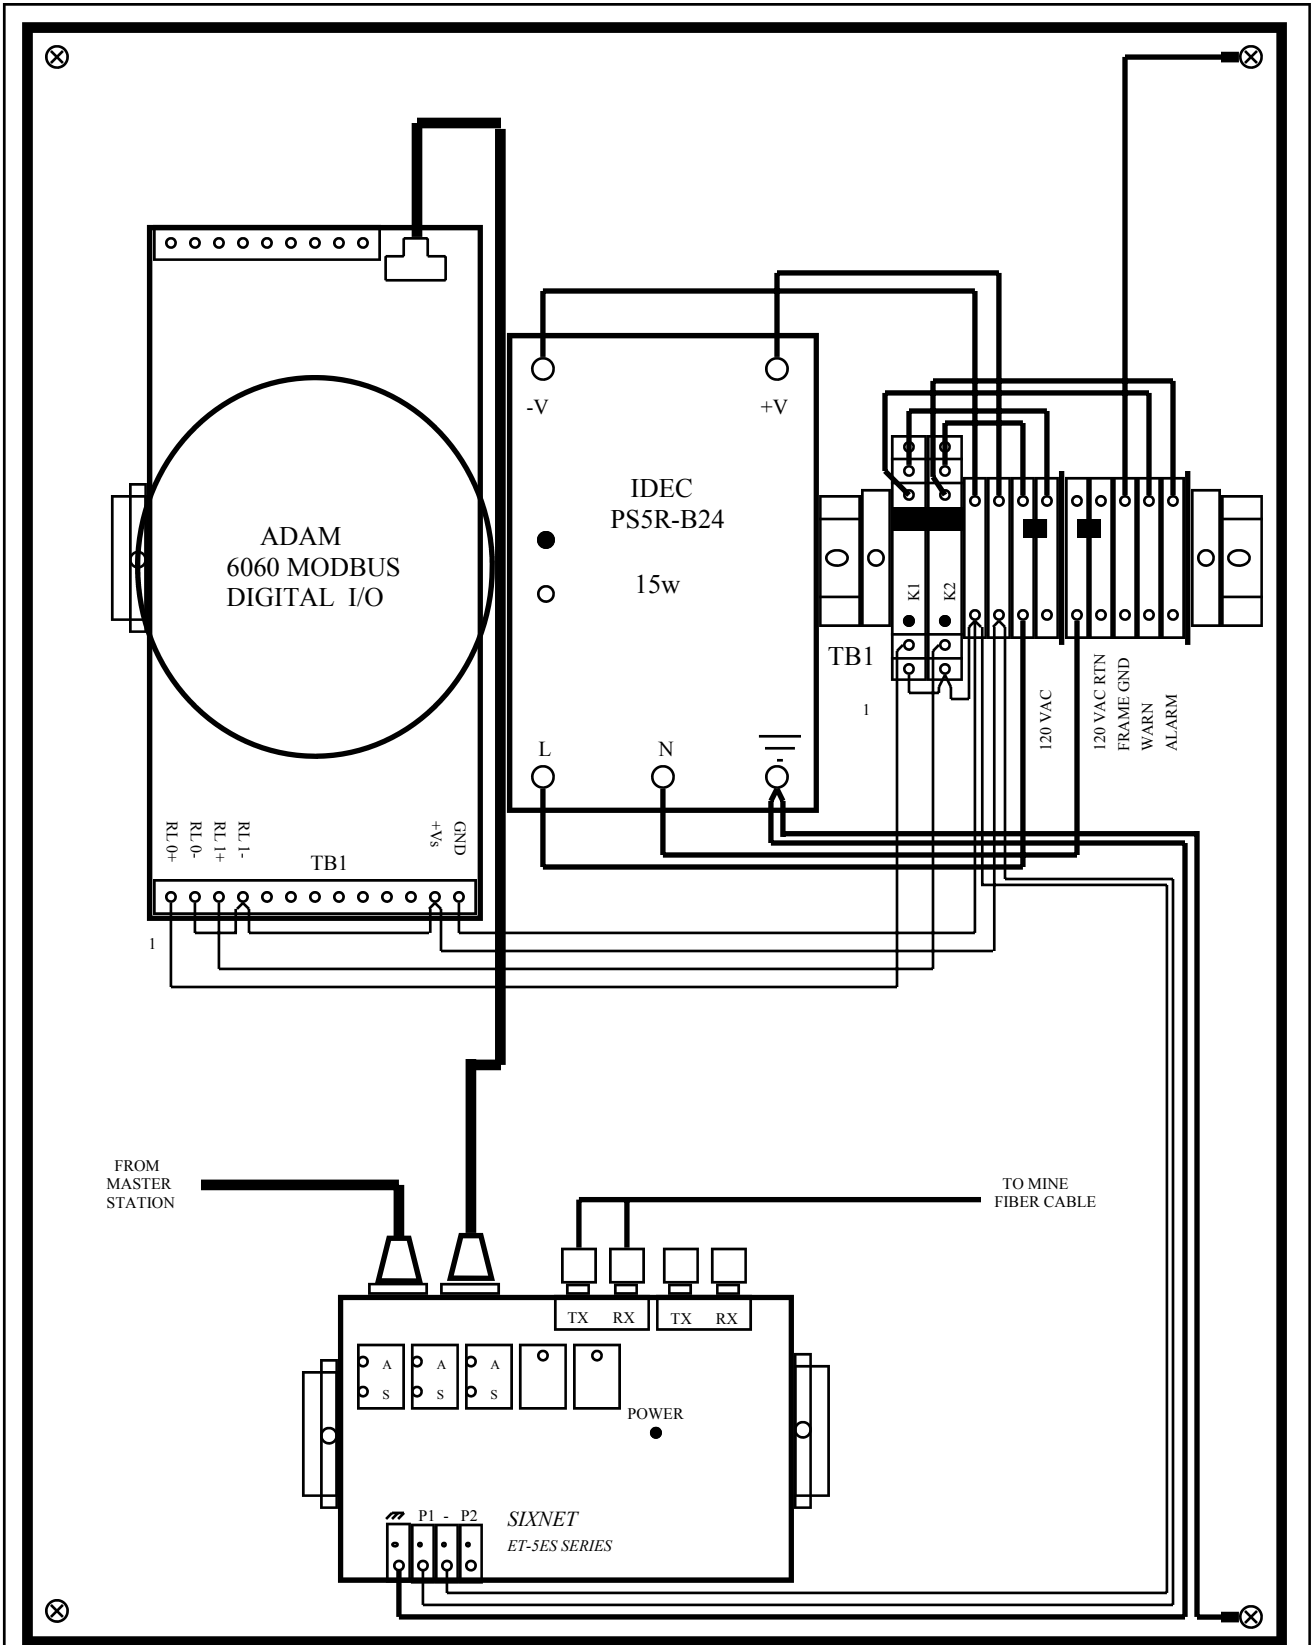
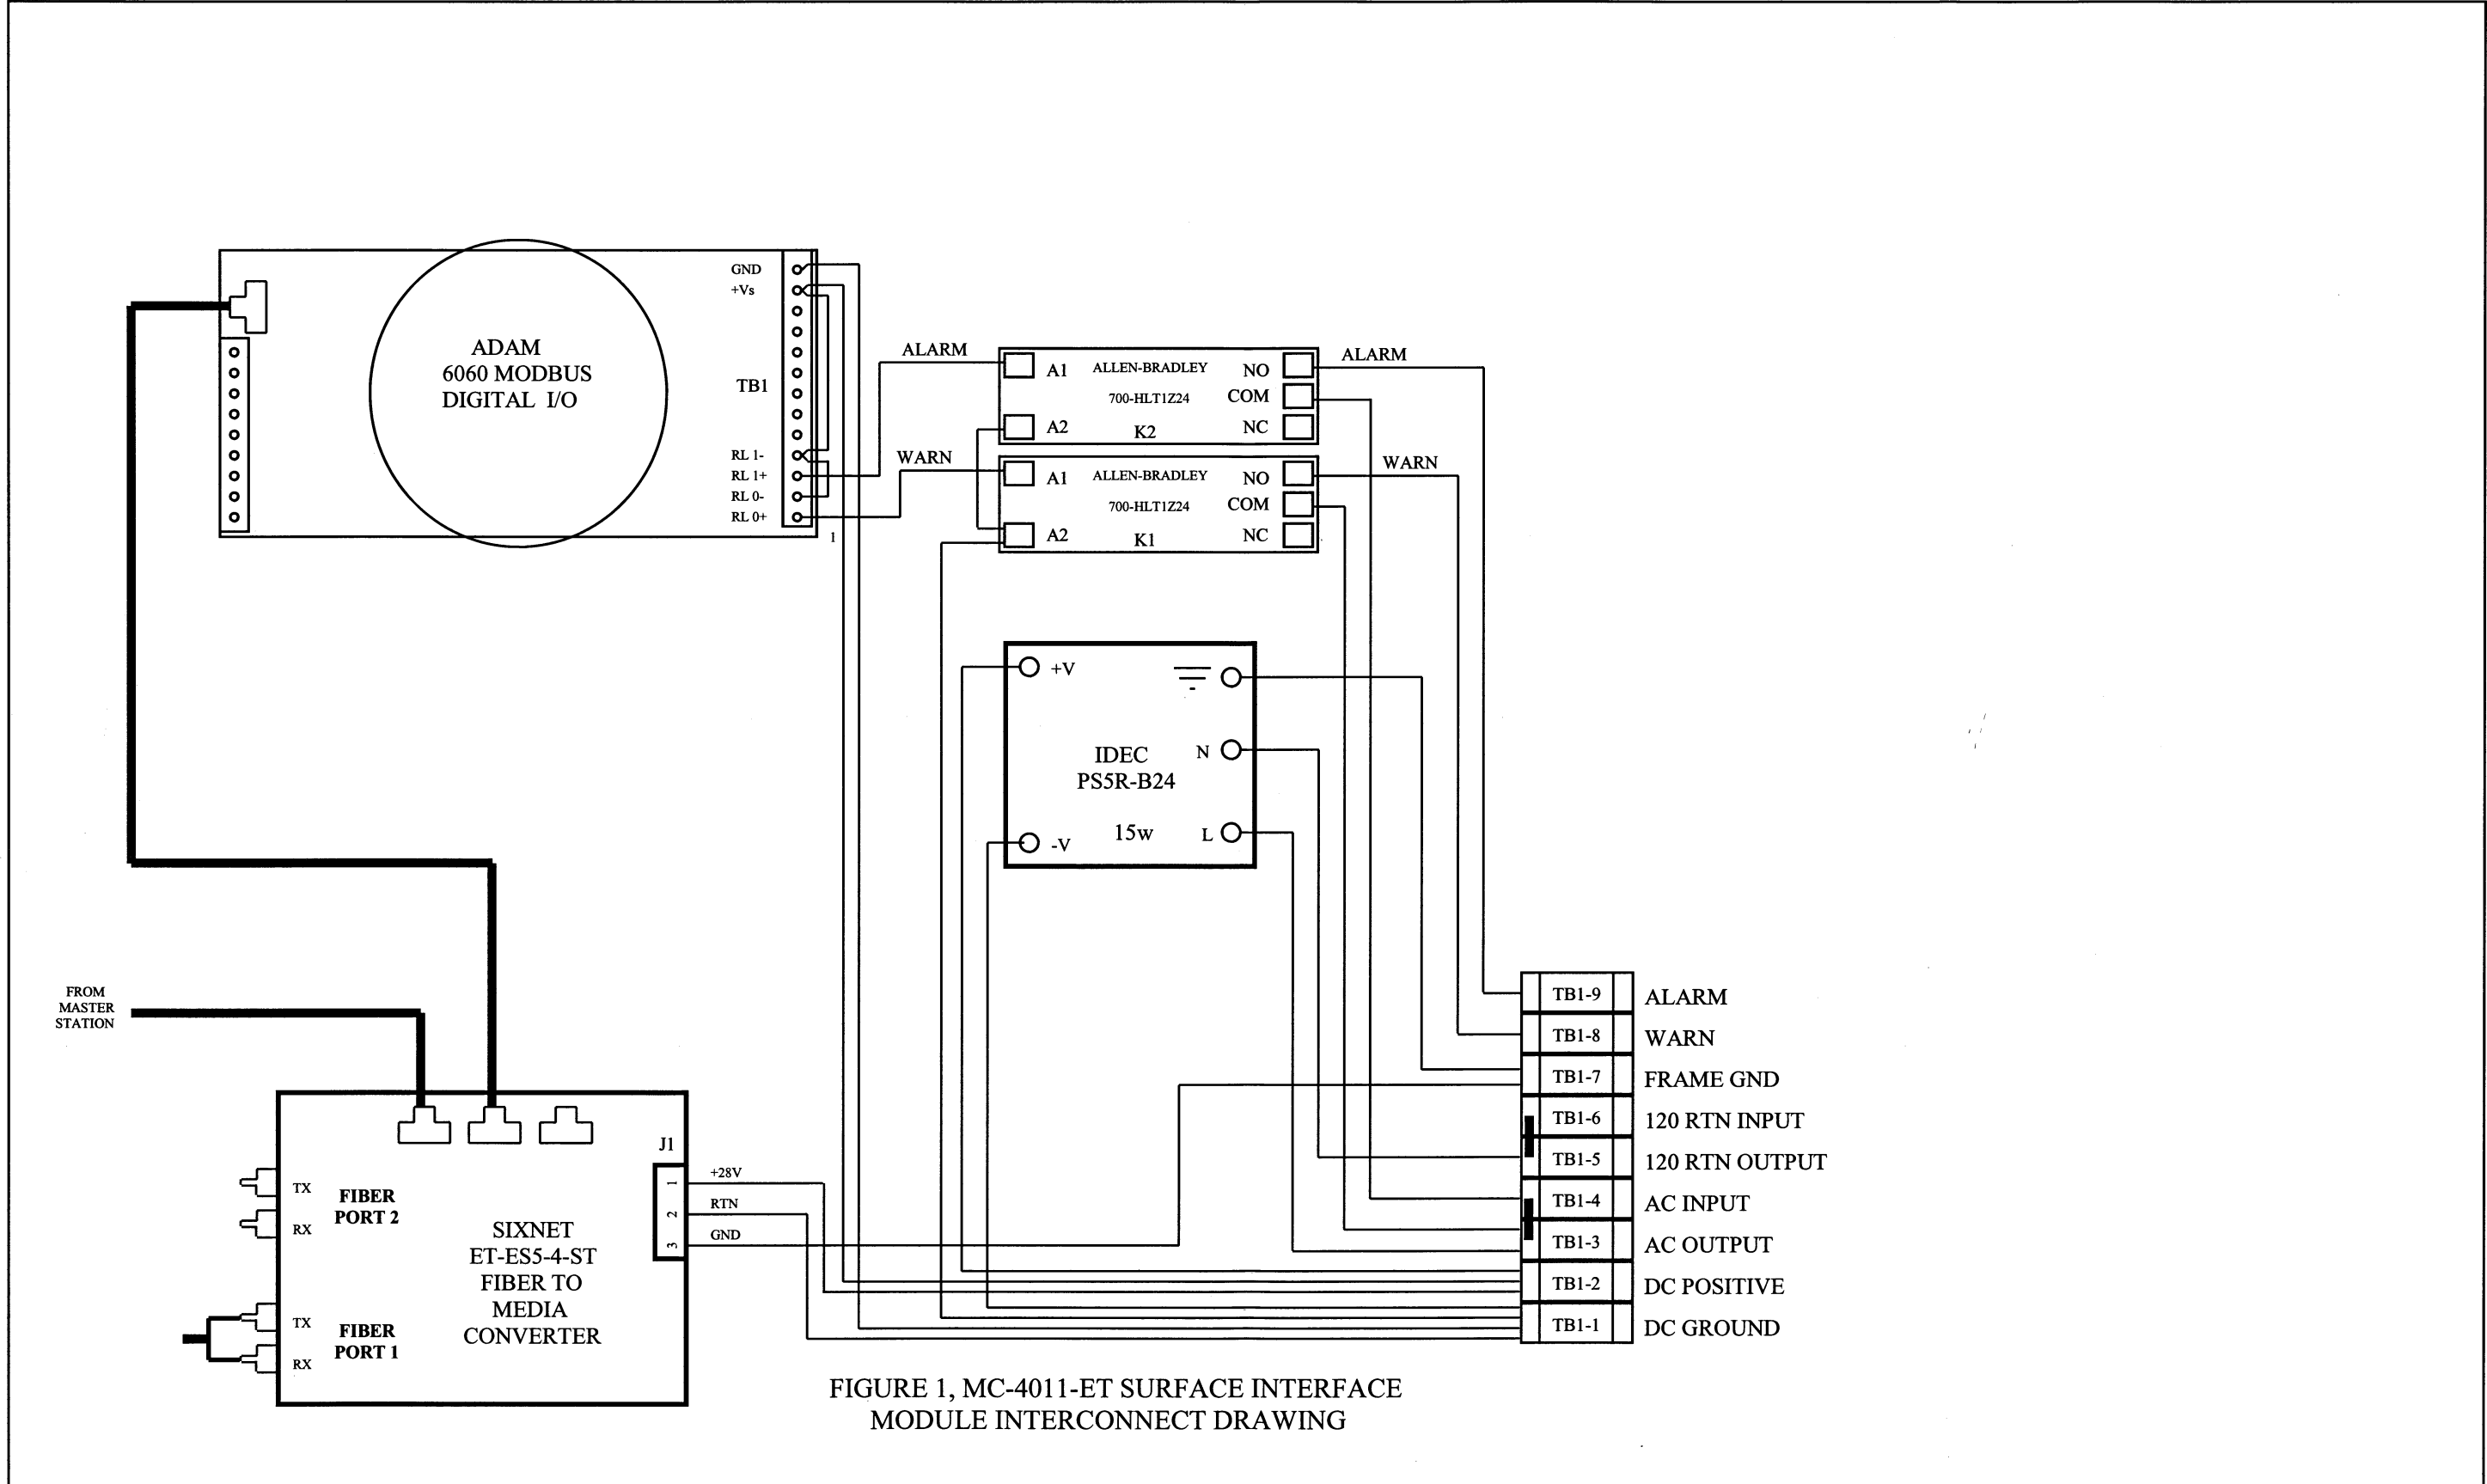

FIGURE 2, MC-4011-ET SURFACE INTERFACE
FIGURE 1, MC-4011-ET SURFACE INTERFACE
**Note 1:** Use Figure 1, MC-4011-ET Surface Interface Module Interconnect Drawing; and Figure 2, MC-4011-ET Surface Interface Module Layout as an aid in making connections.
Before applying power to the MC-4011-ET Surface Interface Module , insure the following connections are made as shown in Figures 1 and 2.